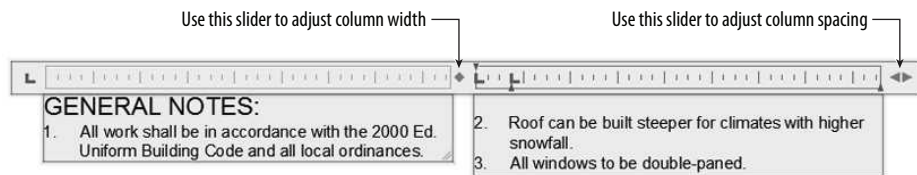

FIGURE 8.63: Using the column sliders to adjust multiline text column width and spacing
16. Use the double arrow to the far right of the Multiline Text Editor to position the new column closer to the first column on the left, as shown in Figure 8.63.
17. Use the diamond grip between the two columns to adjust the width for both columns so that they will fit along the lower edge of your drawing (see Figure 8.63).
Your GENERAL NOTES text block should look like Figure 8.63.